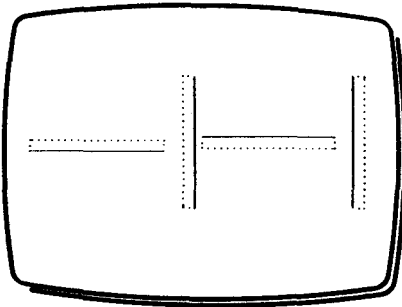

Fig 6
- 5 Press and hold L and rotate Z to rotate the box cursor, the solid line defines the bottom of the text. See Fig 6 for the different rotations possible.**